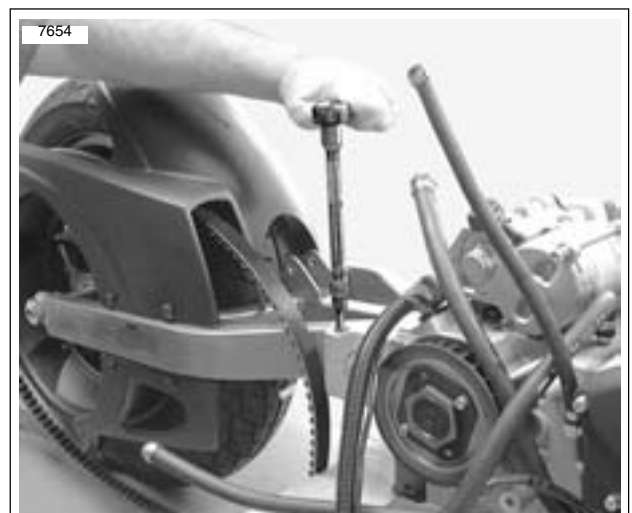

Figure 3-18. Pinch Bolt
32. See Figure 3-18. Loosen swingarm pinch bolt.